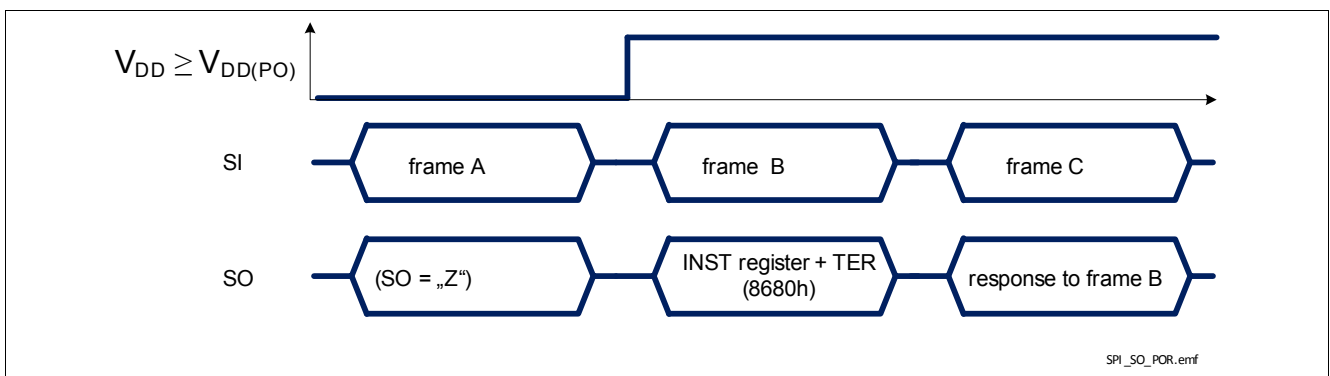

Figure 30 TLE75008-EMD response after coming out of Power-On reset at  $V_{DD}$
- when TLE75008-EMD logic supply comes out of Power-On reset condition or after a Software Reset, as shown in **Figure 30**